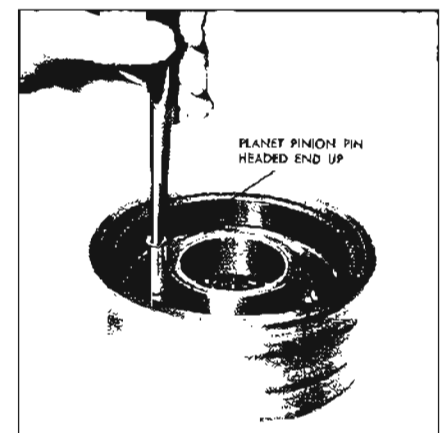

Figure 5-666
6. Place a bronze and steel thrust washer on each side of pinion so steel washer is against pinion. See Figure 5-666.
8. Drive a new pinion pin into place while rotating pinion from the front, being sure that the headed end is flush or below the face of the carrier. See Figure 5-666.